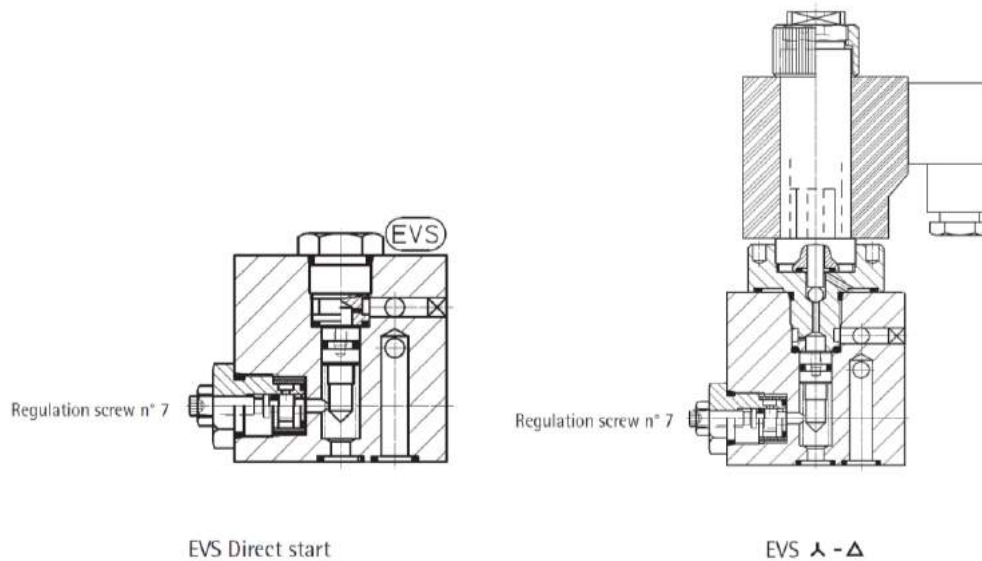

Figure 50 – EVS with and without coil: sections
- In case of installations with coil EVS, disassemble the Δ group, unscrew the mechanical part of the coil, shake it strongly to verify if the piston inside moves free (shake it strongly, because the piston is braked by a spring). In case of installations without coil EVS, remove the cap EVS. For both the cases, clean the brass piston, clean the parts disassembled and reassemble them (see Figure 50).